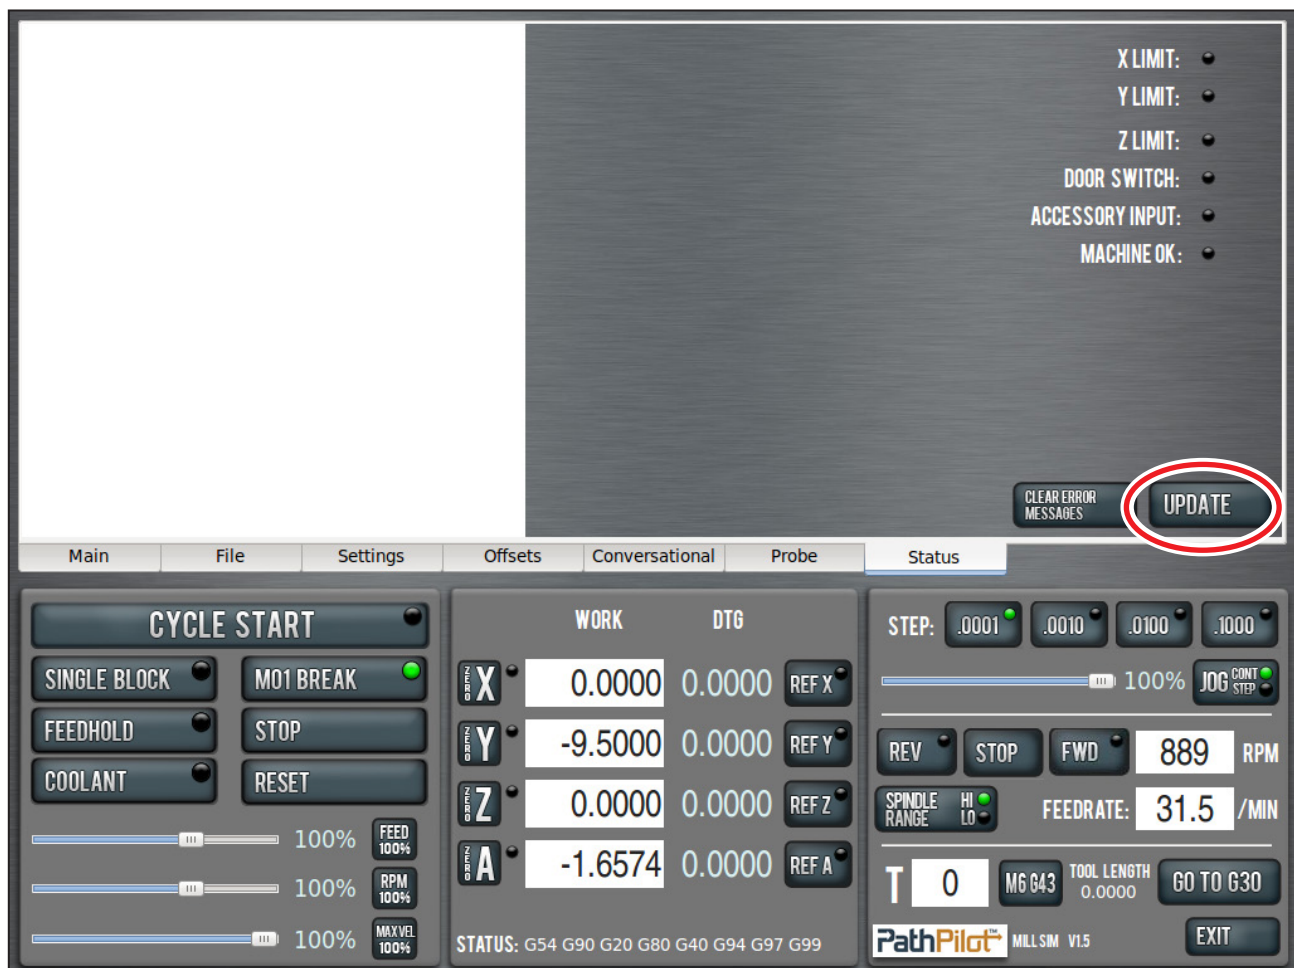

Figure 6
4. With PathPilot controller on and out of *Reset*, go to *Status* screen and click *Update* (see **Figure 6**).